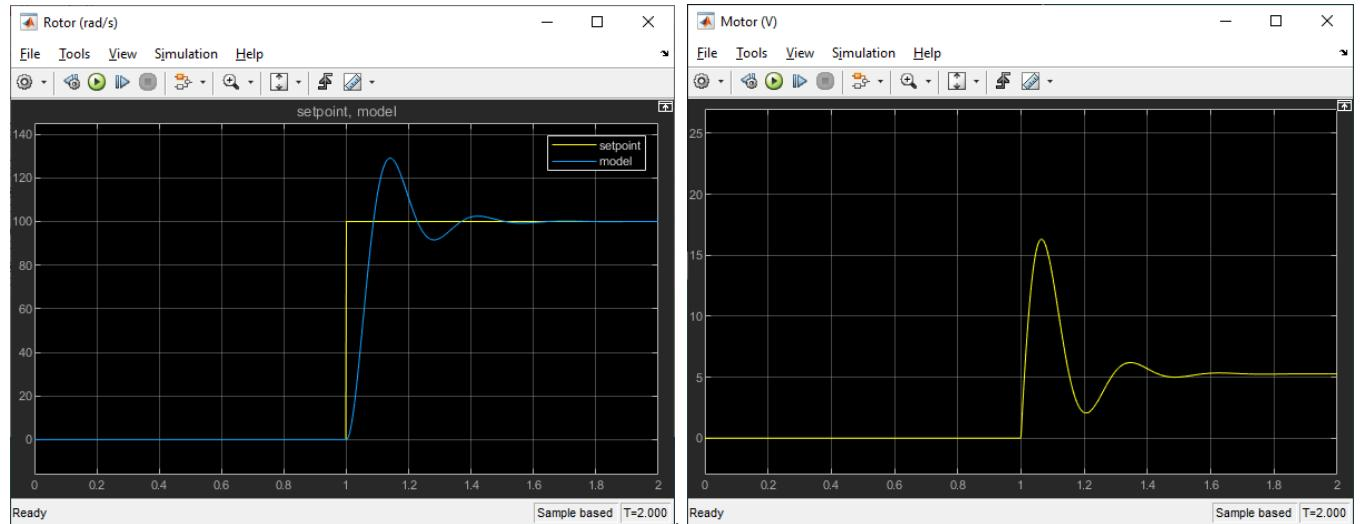

Figure 2 – Sample simulated rotor speed control response using  $k_p=0.1$  and  $k_i=5$ .
5. Run the *s\_aero2\_rotor\_pi*/Simulink model to simulate the closed-loop response of the PI control. The response using the default PI gains  $k_p = 0.1 \text{ V}/(\text{rad/s})$  and  $k_i = 5 \text{ V}/\text{rad}$  is shown in Figure 2. Note that the response with the designed PI gains will be different.